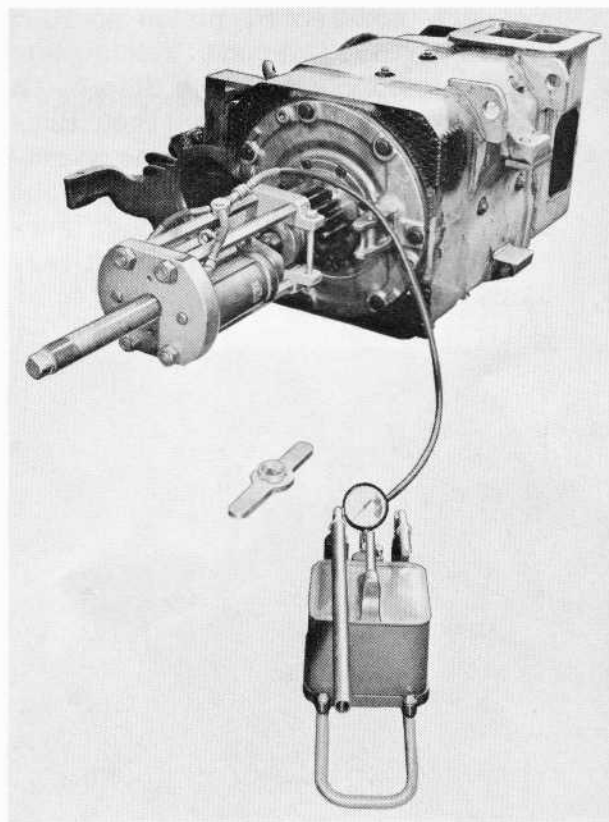

Fig. 19 - Hydraulic Pinion Puller
4. Using a suitable hoist, install threaded pilot and hydraulic puller assembly to pinion, Fig. 19. The threaded pilot should enter the threaded portion of the pinion gear to its complete depth. Otherwise, threads will strip and result in damage to either the gear or the pilot, or both.